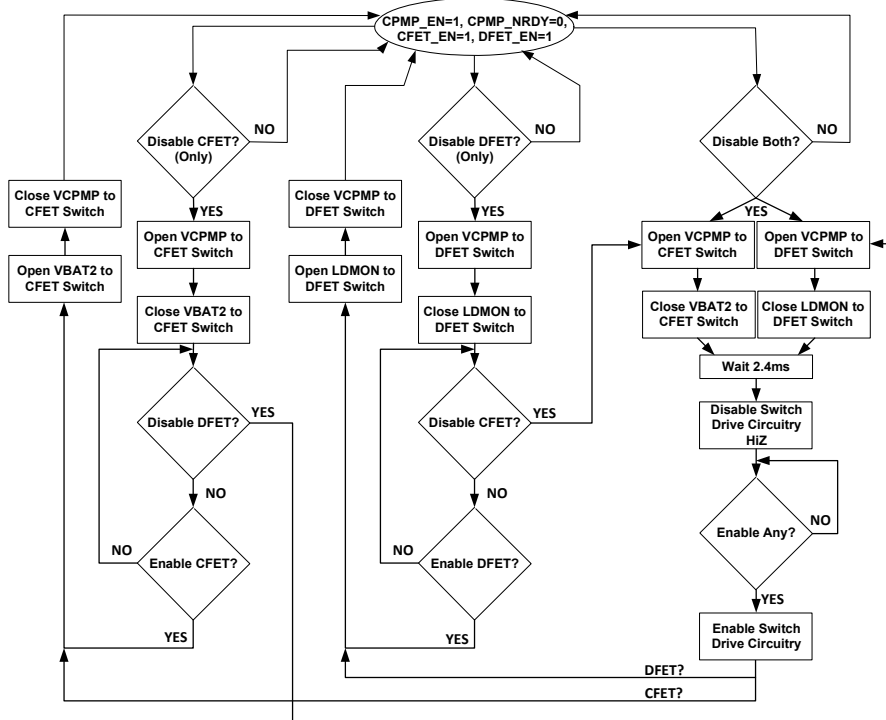

Figure 103. C/DFET Shutdown Flowchart
See DFET Pin (50) and CFET Pin (51) for the cases of when CPWR is set to 1 for parallel power FET applications. See Figure 103 for the shutdown sequence for these pins.